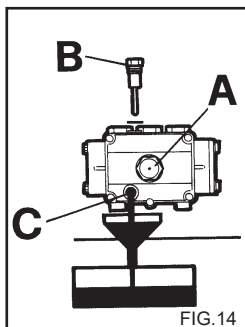

FIG. 14
2) Unscrew the cap with the dipstick (fig. 14).